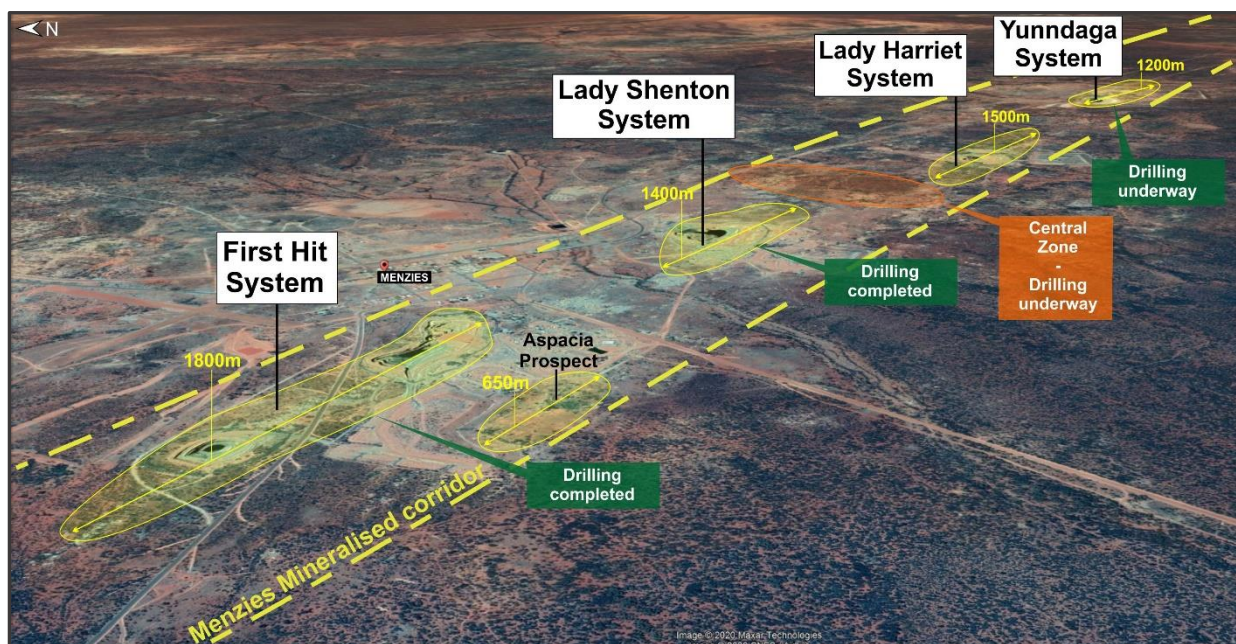

Figure 1: MGP main mineralised systems and drilling locations for the current programme
Kingwest Resources Ltd (ASX: KWR) (“Kingwest” or “the Company”) is pleased to announce additional results from the ongoing diamond core programme at Yunndaga and Lady Shenton systems and commencement of Reverse Circulation (RC) drilling of the Central Zone at the Menzies Gold Project (MGP) see Figure 1.